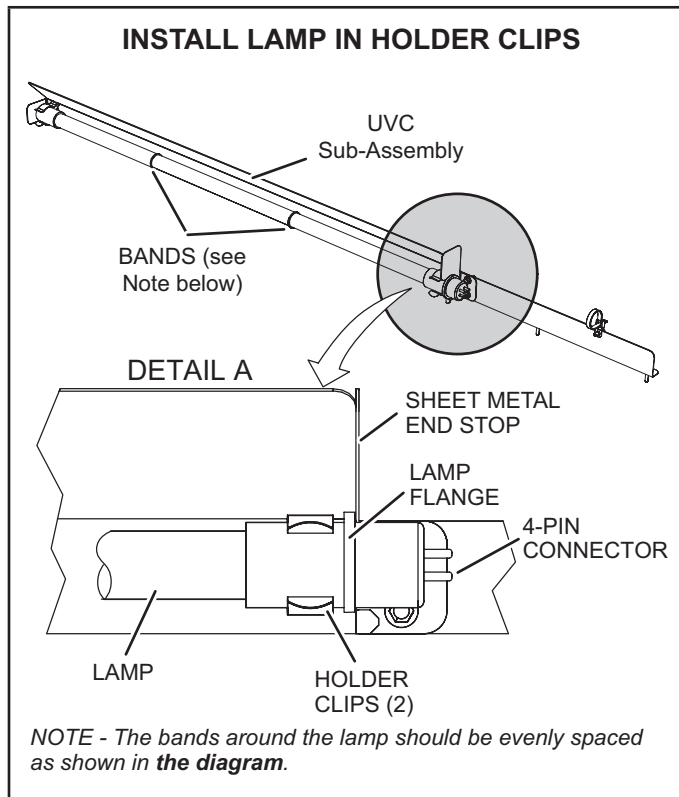

FIGURE 36
When the UVC light is factory installed, the lamp is shipped in a foam sleeve. The lamp is attached to the UVC light assembly on the blower deck. See FIGURE 36. Remove the lamp and install into the UVC light assembly as shown in steps 2 through 11.
- 7 - Wear cotton gloves or use a cotton cloth when handling the new lamp. Place the new lamp in the holder clips of the UVC assembly. Verify that the lamp flange at the connector end is sandwiched between the lamp holder clip and the sheet-metal end stop (see FIGURE 36).